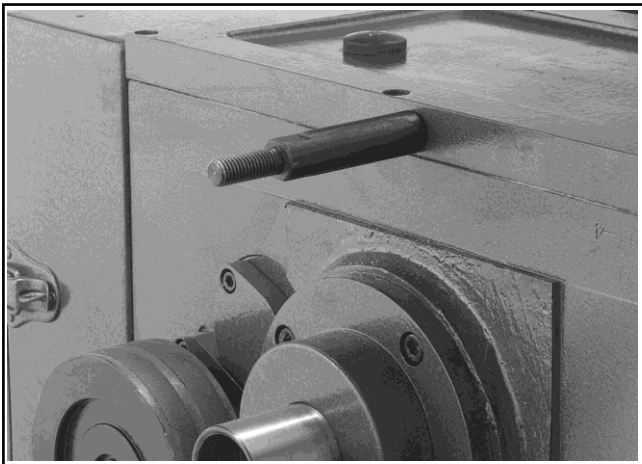

Figure 3. Replacement mounting stud installed.
2. Install the replacement mounting stud as shown in **Figure 3**.